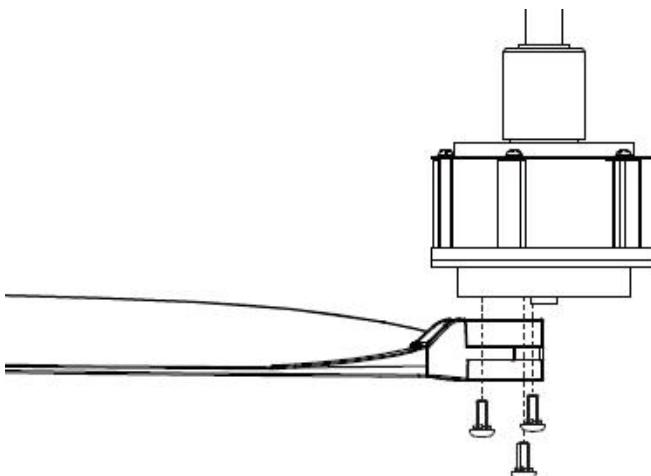

Fig. 7
- Secure the blade to the motor by tightening the 3 blade screws. Fig.7